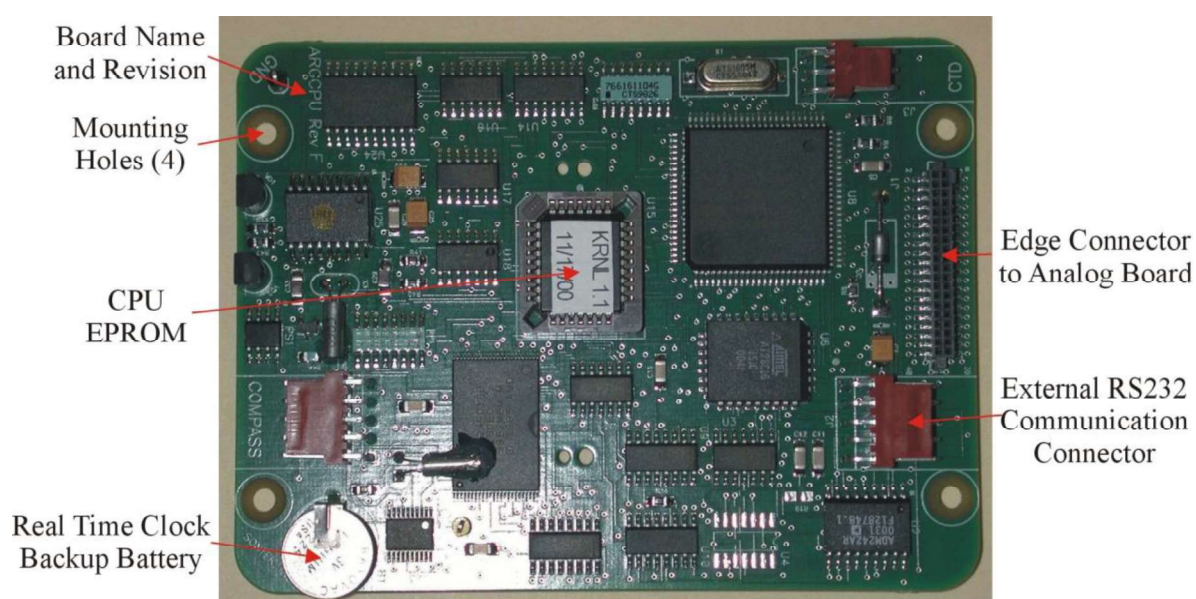

Figure 7-13. Argonaut-SL CPU Board
- A 40-pin edge connector mates the Analog board to the CPU board (Figure 7-13).
- The Analog board includes four (4) holes for mounting, which match the mounting holes on the CPU board and are used with a set of #4-40 screws and standoffs.
Figure 7-13 shows the layout of the CPU board.